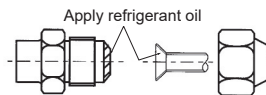

Fig. 7-2
- (3) Apply refrigerant oil on the flared seat. (Fig. 7-2)
- (4) Connect the refrigerant piping immediately. Always tighten the flared nuts to the torque specified in the Table 2 using a torque wrench and double spanner.